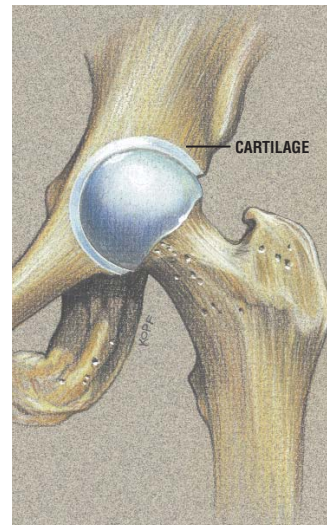

Figure 3
- Simulates the ANATOMIC joint by allowing increased lubrication between components3 (Figures 3 & 4)